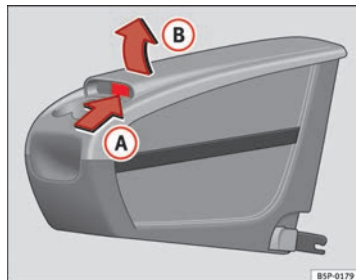

Fig. 114 Mobile storage compartment. Opening
- Lift the cover (B), in area (A) ⇒ Fig. 114.